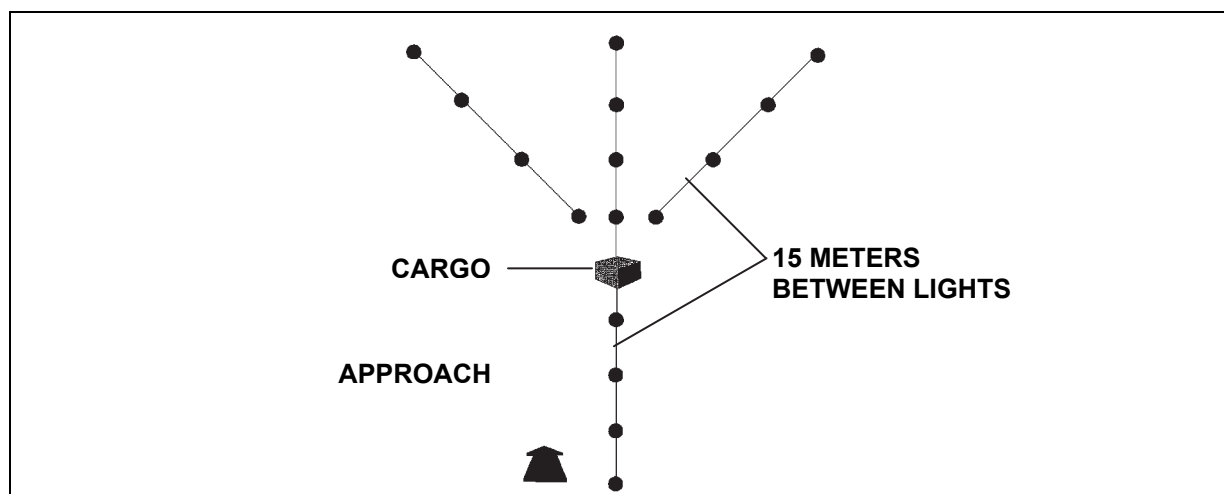

Figure 4-16. Crow's Foot System
- **Crow's foot.** (USMC) The crow's foot is an optional lighting system used during night operations. Infrared chemlites are attached to tent stakes at 15 meter intervals as shown in figure 4-16.